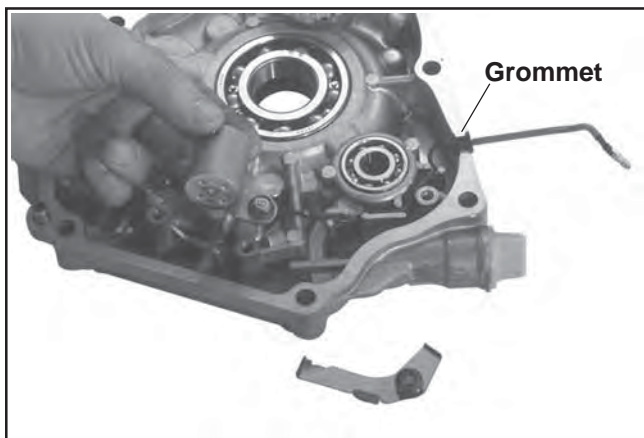

Figure 9-78. Removing Shield and Oil Sentry™.
3. Remove the two hex flange screws mounting the oil sentry gauge and the single screw holding the wire shield in place. See Figure 9-78.